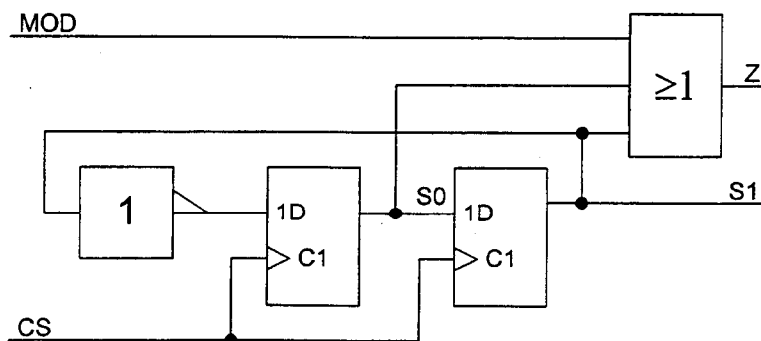

Figure 2.2
- (c) Draw the state diagram for the counter circuit of *Figure 2.2*. Draw a timing diagram showing, for the case MOD=0, the waveforms of the clock, CS, and the outputs S0, S1 and Z for one complete cycle of the counter. [4]